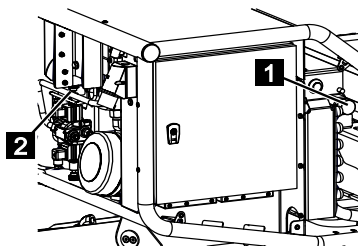

Fig. 205
5. Push in the valve [outrigger, crawler] (Fig.205/1) and lock it by turning it clockwise.
6. Screw the valve [LS] (Fig.205/2) in clockwise as far as it will go.